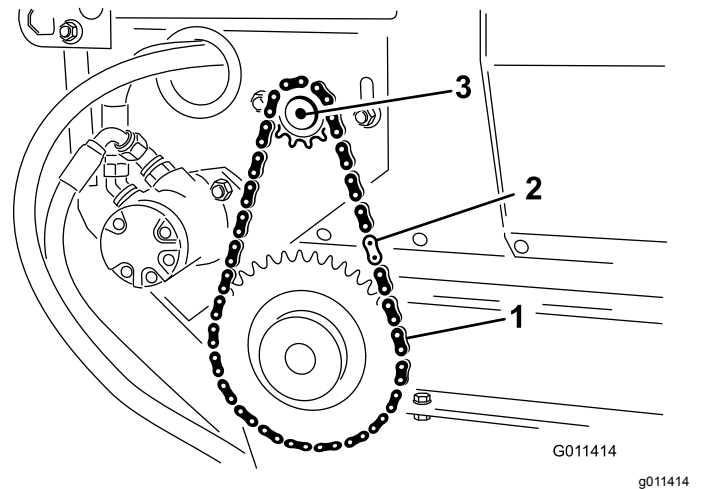

Figure 30
2. Remove the master link from the chain and remove the chain from the small sprocket (Figure 30).